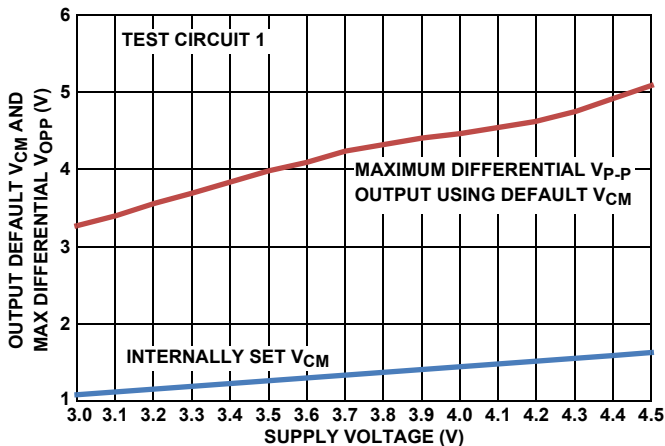
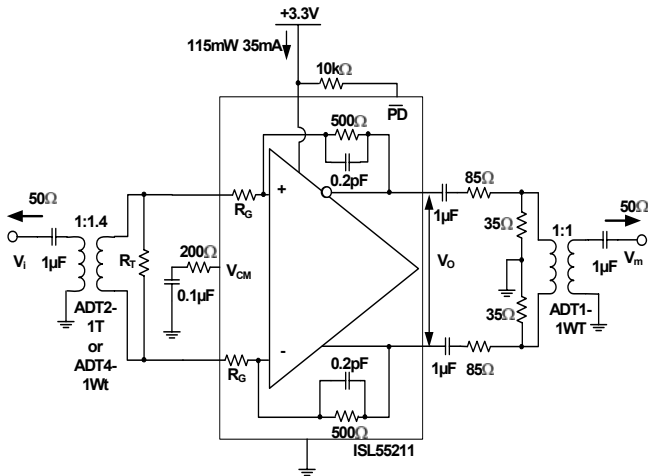
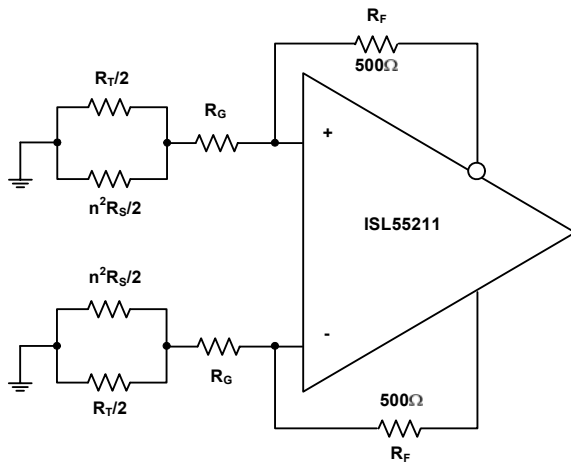
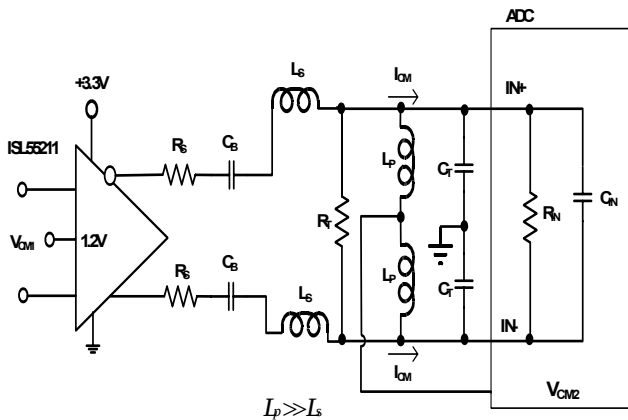

FIGURE 27. DEFAULT V_{CM} AND MAX V_{Opp} vs SUPPLY VOLTAGE
FIGURE 29. TEST CIRCUIT 1
FIGURE 35. NOISE GAIN MODEL FOR THE TRANSFORMER COUPLED INPUT CIRCUIT OF FIGURE 29
FIGURE 37. AC-COUPLED, HIGHER FREQUENCY RLC INTERSTAGE FILTER DESIGN
Test Circuit 1 of Figure 29 forms a starting point for many of the characterization curves for the ISL55211. Since most lab sources and measurement devices are single-ended, this circuit converts to differential at the input through a wideband transformer and would also be a typical application circuit coming from a single-ended source. Assuming the source is a 50Ω impedance, the internal R_G resistors and external R_T are set to provide both the input termination and the gain. Since the inverting summing nodes act as virtual ground points for AC signal analysis, the total termination impedance across the input transformer secondary will be $(2 \cdot R_G) \parallel R_T$. Setting this equal to $n^2 \cdot R_S$ will give a matched input impedance inside the bandwidth of the transformer (where "n" is the turns ratio). The amplifier gain is fixed by the selected input R_G element and the internal 500Ω feedback resistors. While the ISL55211 is internally a Voltage Feedback Design (VFA) to give the lowest possible noise, internal compensation caps hold the bandwidth over gain setting approximately constant at 1.4GHz. For wider small signal bandwidth at lower gains, consider the ISL55210, which provides >2.2GHz at a gain of 12dB.
Working with a transformer coupled input as shown in Figure 29, or with two DC blocking caps from a differential source, means the output common mode voltage set by either the default internal V_{CM} setting, or a voltage applied to the V_{CM} control pin, will also appear as the input common mode voltage. This provides a very easy way to control the ISL55211 I/O common mode operating voltages for an AC-coupled signal path. The internal common mode loop holds the output pins to V_{CM} and, since there is no DC path for an I_{CM} current back towards the input in Figure 29, that V_{CM} setting will also appear as the input common mode voltage. It is useful, for this reason, to leave any input transformer secondary centertap unconnected. The internally set V_{CM} voltage is referenced from the negative supply pin. With a single 3.3V supply, it is very close to 1.2V but will change with total supply voltage across the device as shown in Figure 27.
Most of the characterization curves starting with Figure 29 then get different gains by changing the connections to the two pairs of input R_G connections, as shown on the pin configuration drawing on page 2. Two input turns ratios are intended for Test Circuit 1; either a 1:1.4 turns ratio (ohms ratio of 2) or a 1:2 turns ratio (ohm ratio of 4). The specific transformers shown in Figure 29 are representative of broadband RF transformers but alternate devices and manufacturers of these turns ratio devices are certainly applicable. The output side of this test circuit presents a differential 200Ω load while converting the differential to single-ended through a resistive attenuator and a 1:1 transformer. This inserts approximately a 17dB insertion loss that is removed to report the characteristic curves. For load tests below the 200Ω shown in Figure 29, a simple added shunt resistor is placed across the output pins. For loads > 200Ω, the series and shunt load R 's are adjusted to show that total load (including the 50Ω measurement port transformer) and provide an apparent 50Ω differential source to that transformer. This output side transformer is for measurement purposes only and is not necessary for final applications circuits. There are output interface designs that do benefit from a transformer as part of the signal path as shown in Figure 1. In that case, the 1:1.4 output side transformer becomes part of a filter design and recovers the filter insertion loss from the amplifier output pins to the ADC inputs.
The characterization circuit of Figure 29 shows one possible input stage interface that offers several advantages. Where AC coupling is adequate, the circuit of Figure 29 simplifies the input common mode voltage control. If the source coming into this stage is single-ended, the input transformer provides a zero power conversion to differential. The two gain resistors (R_G in Figure 29) provide both a portion of the input termination impedance and the gain element for the amplifier. For 50Ω systems, these R_G resistors are too high with the turns ratios shown in Figure 29 to provide the full match and an external R_T resistor is required. This R_T element goes away at the highest gain setting using a 1:2 input turns ratio transformer.
This input interface also simplifies the input common mode control. The V_{CM} pin controls the output common mode voltage. In most DC-coupled FDA applications, the input common mode voltage is determined by both this output common mode and the source signal. In a configuration like Figure 29, there is no path for a common mode current to flow from output to input, so the input common mode voltage equals the output. A similar effect could be achieved with just two blocking caps on the two R_G resistors. A DC-coupled, single to differential, configuration will also have a common mode input that is moving with the input signal. Converting to just a differential signal at the amplifier, as in Figure 29, removes any input signal related artifacts from the input common mode making the ISL55211 behave as a differential only VFA amplifier. There is only a very small differential error signal at the inputs set by the loop gain, as in a
maximum differential V_{P-P} swing will be 4x this 0.6V single-ended limit or $2.4V_{P-P}$. Where $+V_S$ is increased, the limit then becomes the 0.9V below V_{CM} , but then the absolute maximum differential V_{P-P} is then $4 \times 0.9V$ to $3.6V_{P-P}$. So for instance, to get this maximum output swing, increase the supply voltage until $+V_S - 1.5V > V_{CM} + 0.9V$. If we assume a V_{CM} voltage of 1.3V for instance, then $1.3V + 0.9V + 1.5V = 3.7V$ will give an unclipped $3.6V_{P-P}$ output capability. The V_{P-P} reported in Figure 27 is an asymmetrically clipped maximum swing. Going 10% above this 3.7V target to 4.1V will be within the recommended operating range and give some tolerancing headroom that would also suggest the V_{CM} voltage be moved up to approximately 1.5V, which coincides with the default output V_{CM} from Figure 27. Operating at +4.1V single supply in a Figure 29 type configuration will give the maximum linear differential output swing of $3.6V_{P-P}$.
The differential inputs internal to the ISL55211 also have operating range limits relative to the supply voltages. Operating in an AC-coupled circuit like Figure 29 will produce an input common mode voltage equal to the outputs. The inputs can operate with full linearity with this V_{CM} voltage down to 1.1V above the $-V_S$ supply. On the default 1.2V output V_{CM} on +3.3V supplies this gives a 100mV guardband on the input V_{CM} voltages. Overriding the default V_{CM} by applying a control voltage to the V_{CM} pin should be done with care in going towards the negative supply due to this limit. On the + side, the maximum input V_{CM} above the $-V_S$ supply is 2V so there is more room to move the output V_{CM} up than down from the default value.
+85°C maximum operating ambient from Figure 27, we get 4.5V*45mA*+120°C/W = +24°C rise above +85°C or approximately +109°C operating T_J maximum - still well below the specified Absolute Maximum operating junction temperature of +135°C.
Adding an input transformer can improve the input referred noise by adding a noiseless voltage gain. Starting from Test Circuit 1 of Figure 29, and assuming the source shows a matched broadband source R_S that will be matched by the input referred parallel combination of 2*R_G || R_T, a noise gain analysis circuit can be developed as shown in Figure 35.
Stepping through the 3 gain settings with two input transformers will allow the noise gain to be calculated for the circuit of Figure 35, which is all that is needed in Equation 1 to arrive at an output differential noise (since R_F is fixed at 500Ω). Doing this gives Table 4.
2. AC-coupled, higher frequency range interstage filter design. This design replaces the R_T resistors in Figure 35 with large valued inductors and implements the filter just using shunt resistors at the end of the RLC filter. In this case, the ADC V_{CM} can be tied to the centerpoint of the bias path inductors (very much like a Bias-T) to provide the common mode voltage and current to the ADC inputs. These bias inductors do limit the low frequency end of the operation where, with $1\mu\text{H}$ values, operation from 10MHz to 200MHz is supported using the approach of Figure 37.